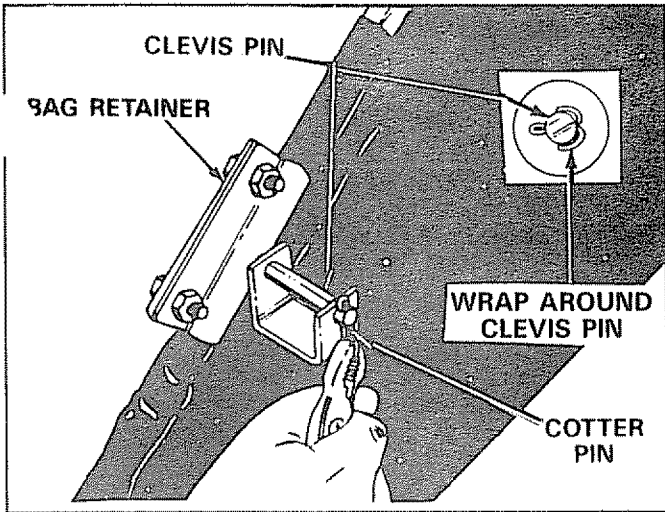

FIGURE 23
- Assemble the bag retainers to clevis pins. Secure with cotter pins. See figure 23. Wrap cotter pin around clevis pin as shown in figure 23.